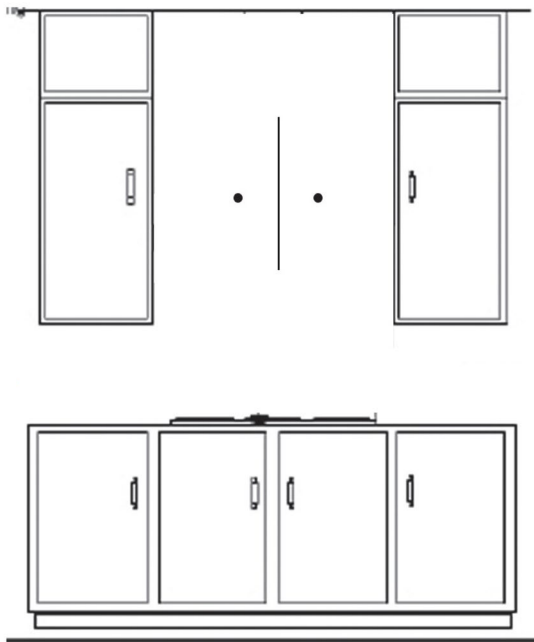

Figure 1
1. Find the center of the wall where you are installing the hood. Make sure there is sufficient bracing, such as wooden beams, to hold the weight of the hood. Mark your center line and measure out from the center to find your two mounting points. Make sure your mounting points are level when you mark them. It is recommended to install the hood directly into wood supports. *Figure 1*
2. Mark the mounting points and install the two mounting screws provided leaving the heads out $\frac{1}{4}$ " to mount the hood. *Figure 1*